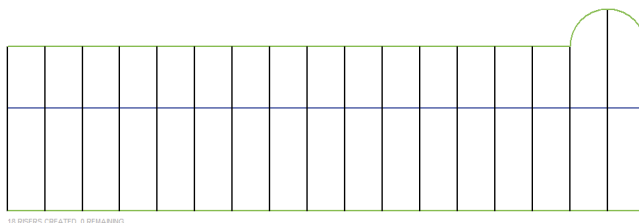

FIGURE 4.13 Updated boundary line location
7. Use the Trim/Extend Multiple Elements tool to extend the riser lines to meet the new boundary line location (Figure 4.13).